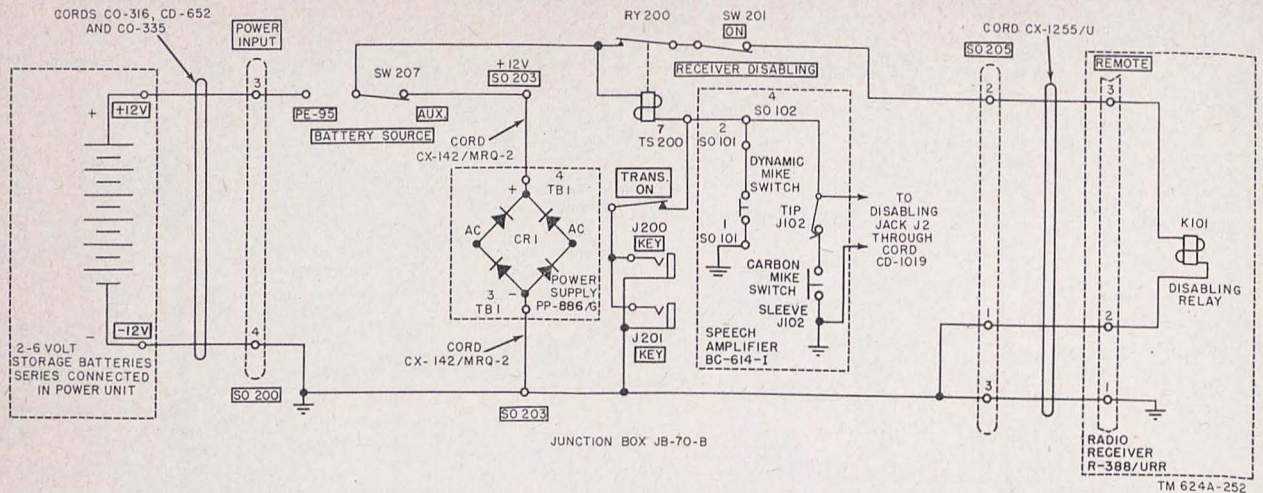

Figure 64. Radio Set AN/MRC-2D, transmitting shelter, 12-volt dc distribution.
b. The 12-volt dc source from Chest CH-109-A (AN/MRC-2C only, fig. 63) and the rectifier is supplied to the common terminal of BATTERY SOURCE switch SW207 in the AUX. position and to the chassis (ground) through terminals of socket SO 600, Cord CD-659, and socket SO 206. The dc output from rectifier RA-63-E (AN/MRC-2C, fig. 63) or Power Supply PP-886/G (AN/MRC-2D, fig. 64) is connected to socket SO 206 through Cord CX-142/MRQ-2 and socket SO 203.